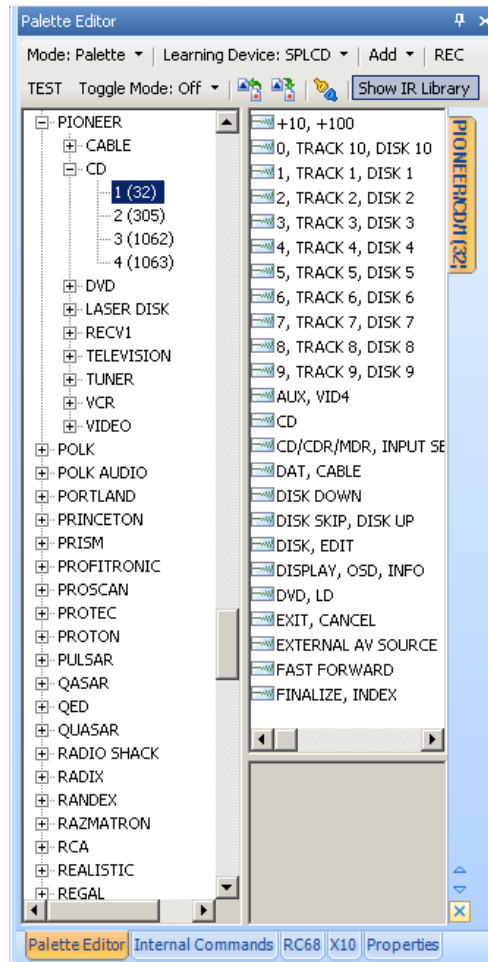

Figure 28 – Palette Editor
2. If not already open, in the **View Menu**, select **Palette Editor** or roll over the **Palette Tab** and click the **Auto-Hide Button** (thumb tack) to hold the window open. The **Palette Editor** will open. (Figure 28).